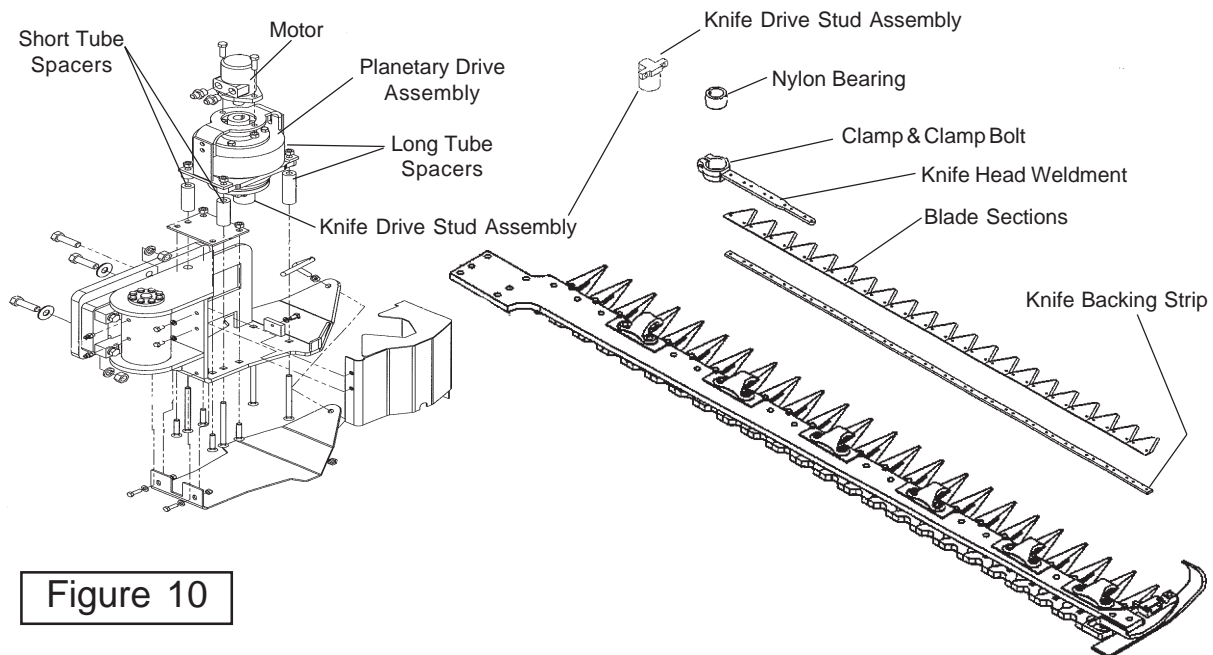

Figure 10
Replacement of the complete cutter bar assembly will require the cutter bar assembly to be unbolted from skid shoe / break-a-way assembly. Wear gloves as the knives on the cutter bar can be very sharp and can cut you. (See Figure 10)
Replace the Knife Bar assembly will require the cutter bar assembly to be unbolted from skid shoe / break-a-way assembly. Wear gloves as the knives on the cutter bar can be very sharp and can cut you. (See Figure 10 & 11)
When reinstalling cutter bar reverse the disassembly procedures. Make certain the nylon bearing is in good condition or replaced, sometimes the clamp will have to be loosened to get the nylon bushing installed into clamp and the drive stud that is attached to the drive assembly with two socket head bolts, DO NOT tighten the clamp bolt at this time. This drive stud can be unbolted from drive assembly, inserted into nylon bearing and re-bolted to drive assembly later (See Figure 10 & 11). if the drive stud is removed from the drive assembly when you reinstall it the two socket head bolts will need to be torqued to 35 ft. lbs.
After the assembly is finished the guards, clips and ledger must be checked for clearance, see the previous section in this manual for setting knife bar to cutter bar components (See Figure 10 & 11).
2. Drive Assembly will need to be removed, See cutter bar assembly replacement on previous pages (See Figure 10).
3. Cutter Bar Assembly will need to be removed, See cutter bar assembly replacement (See Figure 10).
7. Before beginning the reassembly read this section as well as the section that pertains to the component listed below. This is important that these components be assembled correctly as well as adjusted properly. The assembly of the skid shoe weldment, replacement of the Rotor Actuator, Drive Assembly, Cutter Bar, Skid Shoe and Drive Assembly Cover will be reinstalled by reversing the disassembly instructions. (See Figure 10 thru 21)